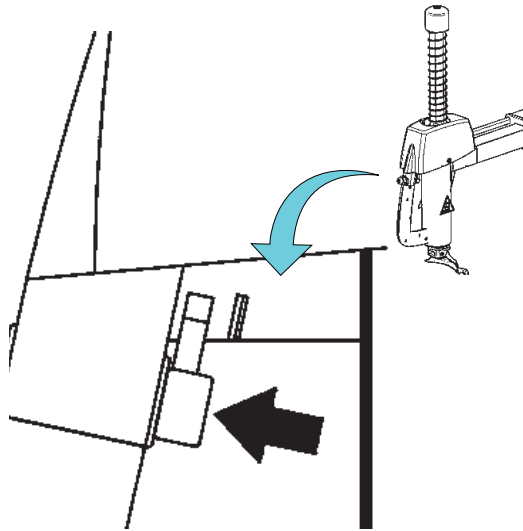

Figure 3.0-2
1. To unlock and let the slide with the tool go up: push the button firmly with the fore finger, in the direction of the arrow (Fig. 3.0-2).